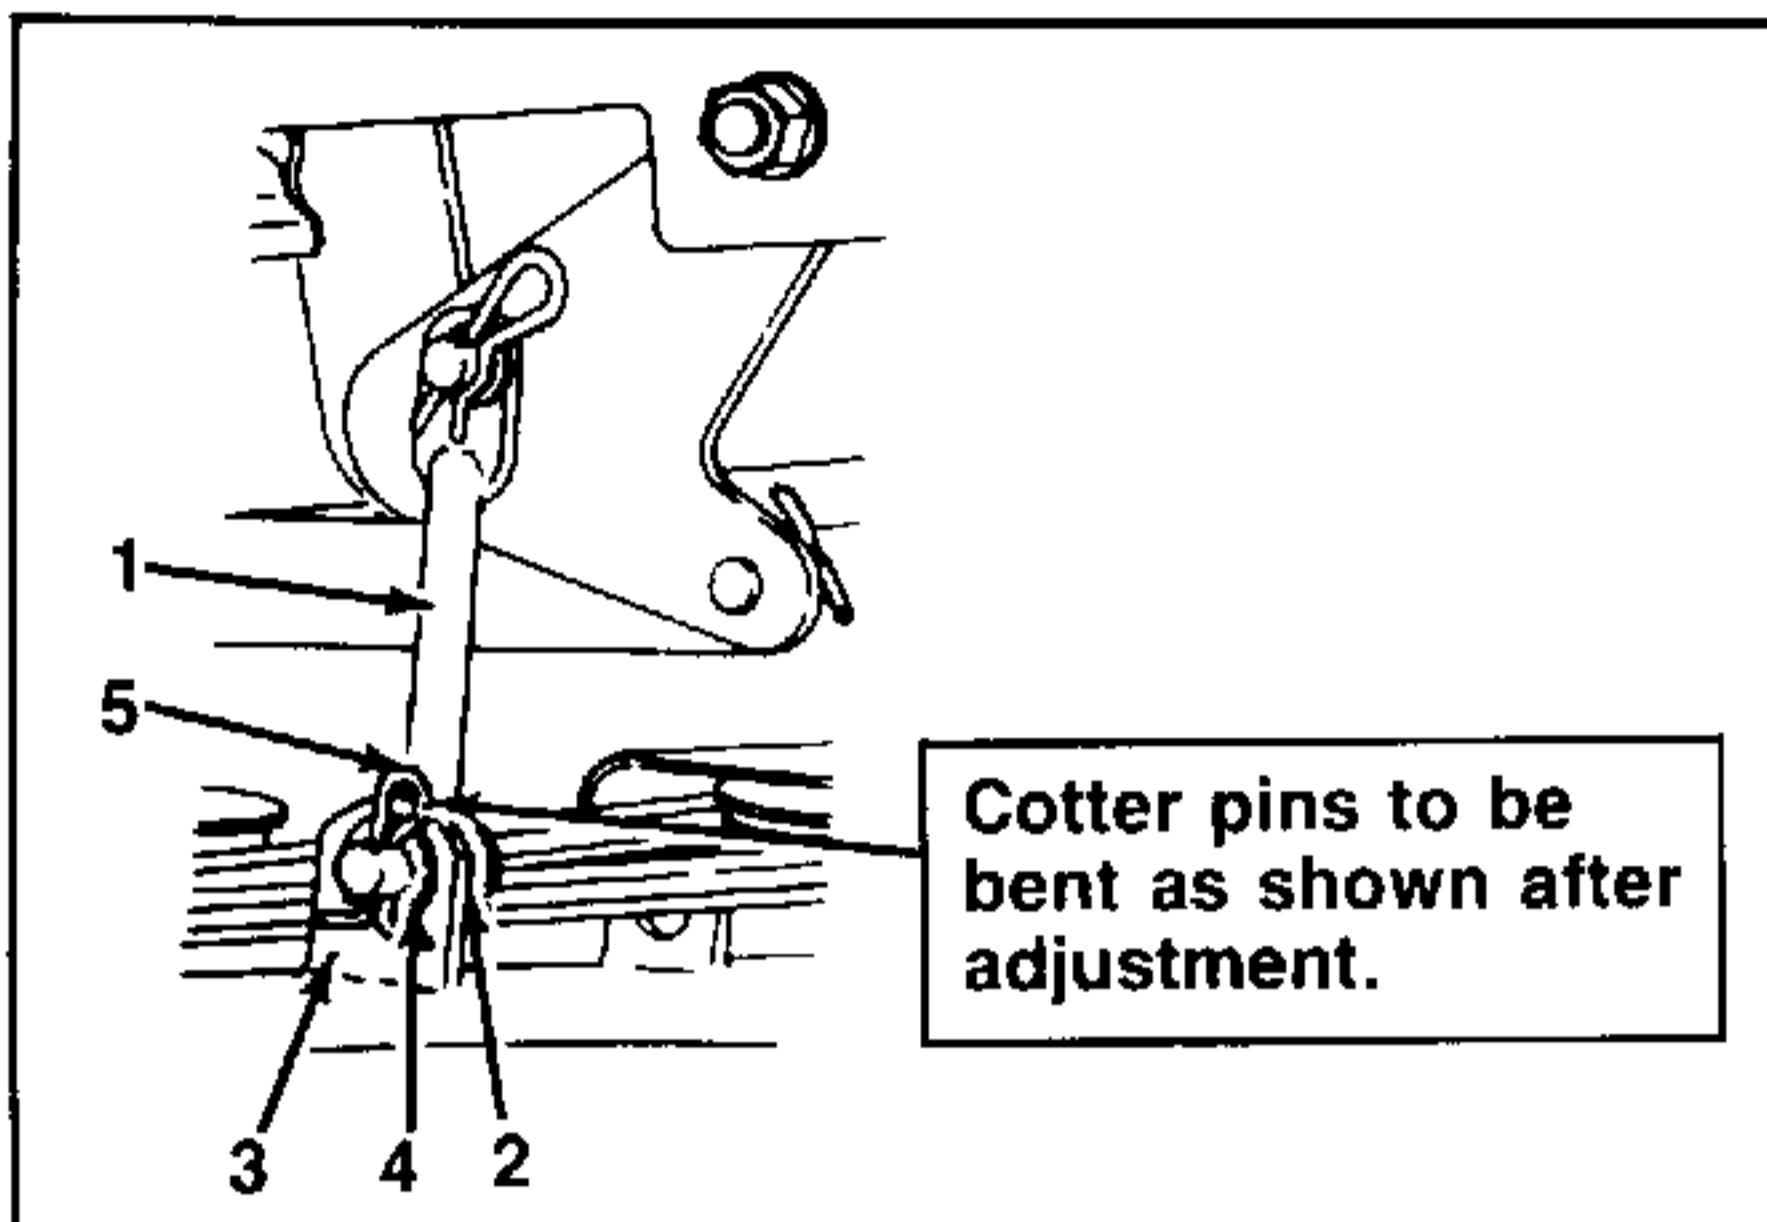

FIGURE 7.
- Screw on and position ferrules to the front lift links. Refer to figure 7 and secure the links to the front deck brackets with flat washers and cotter pins.